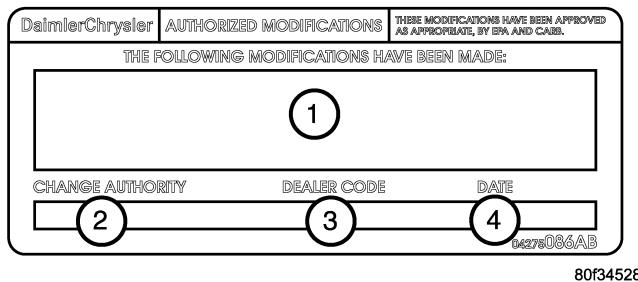

Fig. 1 AUTHORIZED MODIFICATION LABEL
- 7. Type the necessary information on the "Authorized Modification Label" p/n 04275086AB and attach near the VECI label (Fig. 1).
14. Type the necessary information on the "Authorized Modification Label" p/n 04275086AB and attach near the VECI label (Fig. 1).